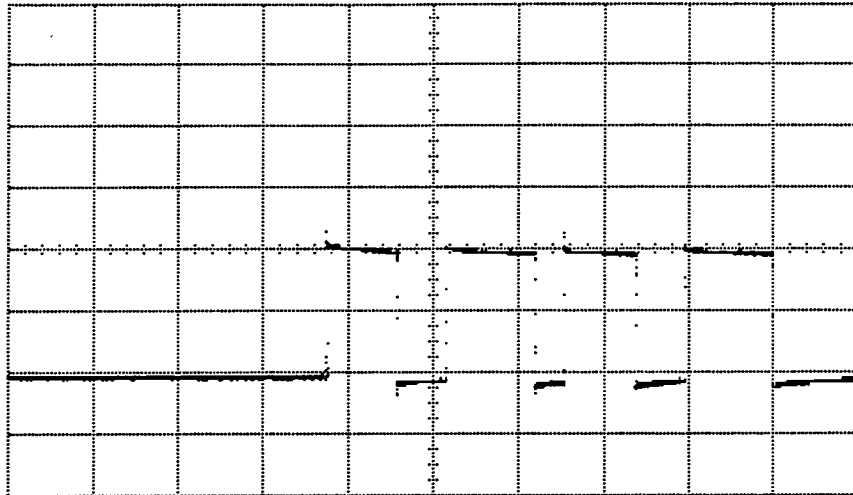

Figure 5-31. Z-Amplifier Auxiliary Output
1. Monitor A81 J3 Pin 2 and check for a display on the oscilloscope as shown in figure 5-31.